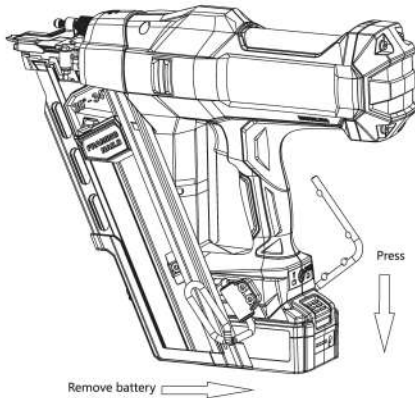

Figure 4
2. remove the battery pack the battery pack is under the handle of the machine, press the pack button in the direction of the arrow, and then press the arrow in Figure 4 to pull the pack out. * Note: Do not force the pack out.